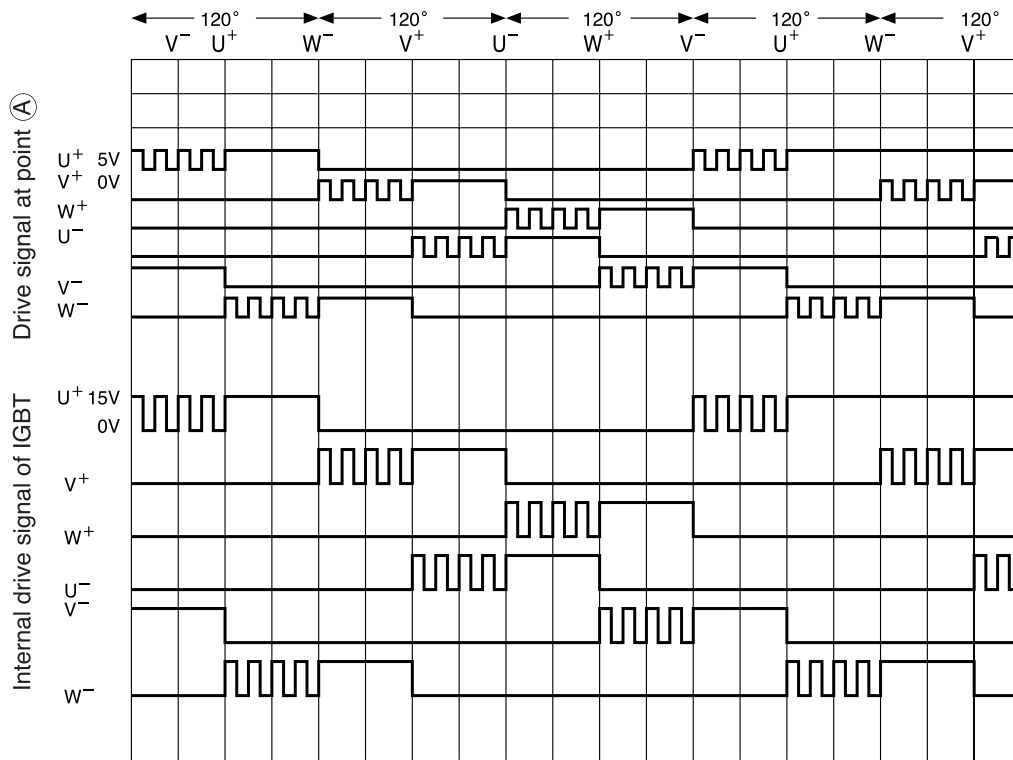

Fig. 4-2
- When the unit operates at low speed, chopper signal is output from the microcomputer as shown in Fig. 4-2. (0V-5V)